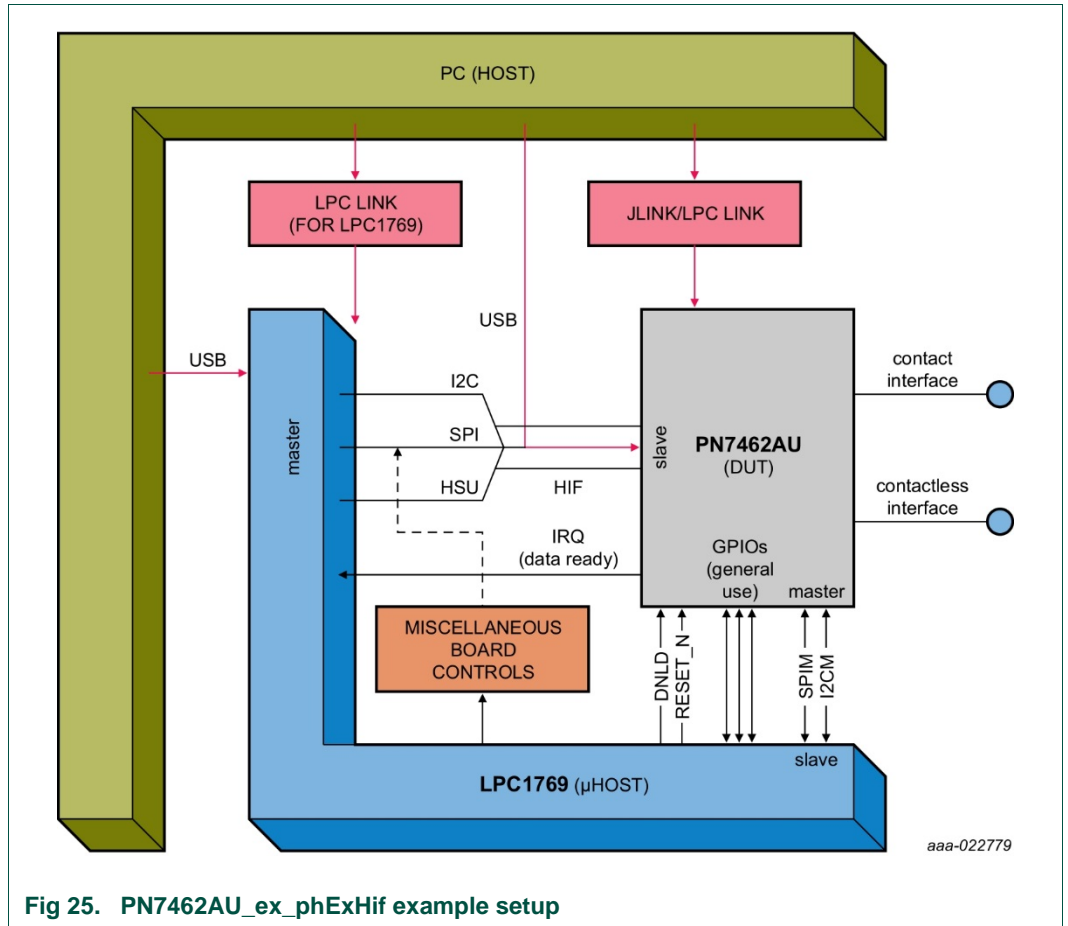

Fig 25. PN7462AU_ex_phExHif example setup
- Fig 25 and Fig 26 illustrate one instance of phExMain execution for both standby and non-standby scenarios.